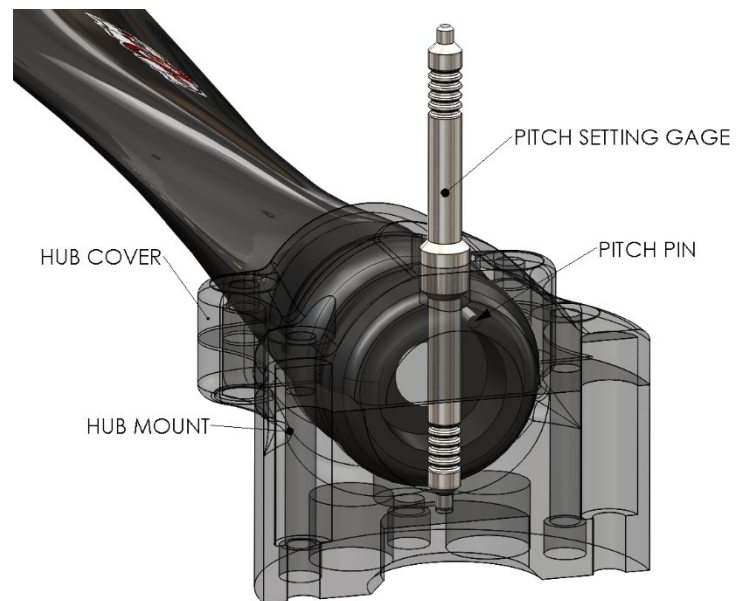

FIGURE 3. PITCH SETTING GAGE DETAIL
8. Insert the pitch setting gage through the clearance hole in the hub cover half and into the receiving hole in the hub mount half. See **Figure 3**. Be sure to use the nominal setting of 4 to start. The pitch setting # indicates relative pitch; pitch 5 is higher pitch than pitch setting 4, etc...
4. Insert the desired pitch setting gauge thru the clearance hole in the hub cover half and into receiving hole in the hub mount half. See **Figure 3**.